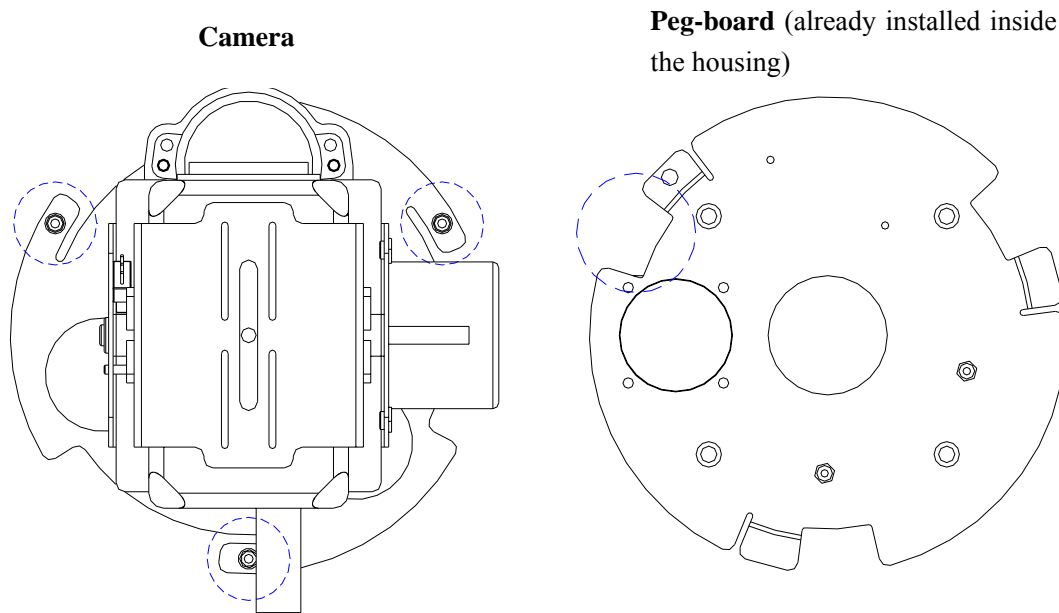

Fig 4.4-1
Step 1. Push the power cable, video cable and controlling cable through the central hole of the peg-board, and then bring into contact the parts shown with dotted lines on the camera and the indentation in the peg-board. (Refer to **Fig 4.4-1**)